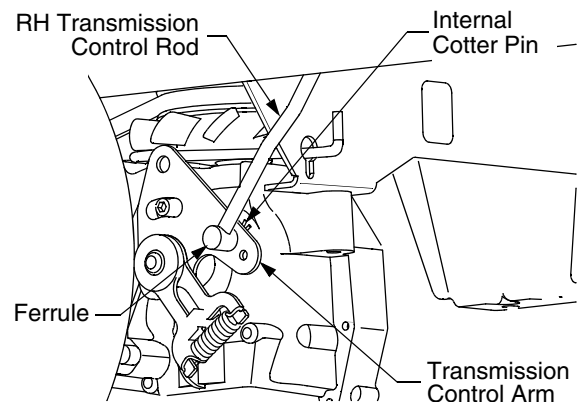

Figure 31
- If only one wheel is rotating, locate the transmission control rod beneath the frame at the front of the rear tire. If both wheels rotate, locate both control rods. See Figure 31.